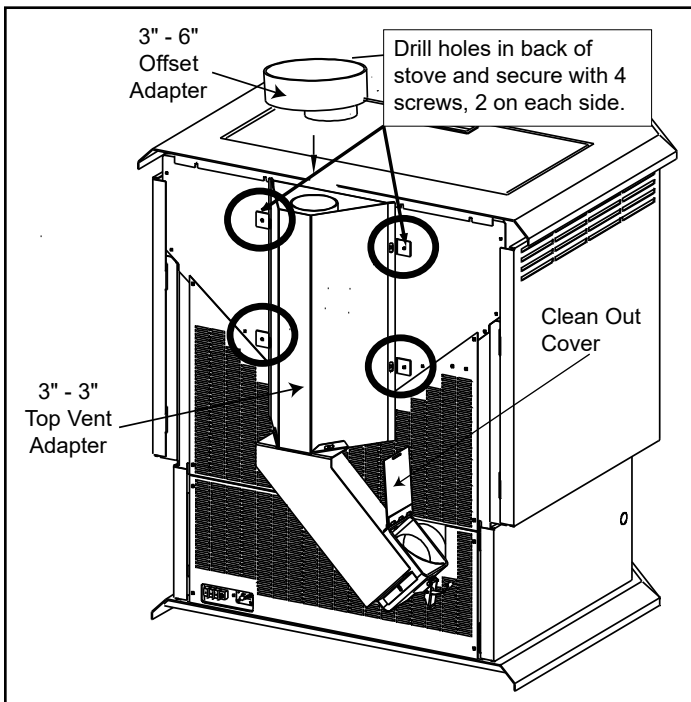

Figure 21.1
3. Drill 4 holes with #26 drill bit (provided) into the back of the appliance using the outer shield as a pattern (make sure the assembly is vertical) (**Figure 21.1**)
6. To clean the top vent adapter, open the clean-out cover (**See Figure 21.1**).